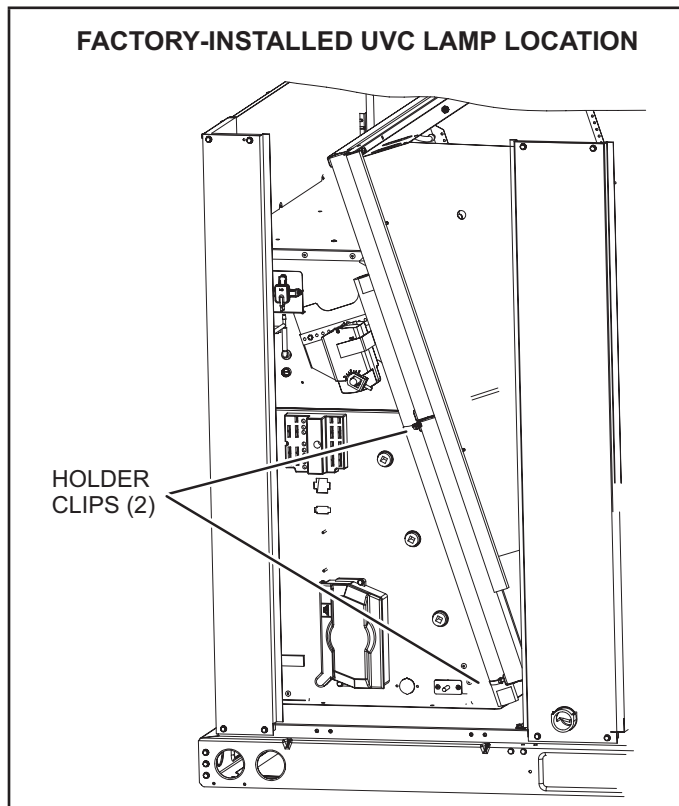

FIGURE 35
- 1 - Cut wire ties and remove the UVC lamp attached to the filter rack. See FIGURE 35.